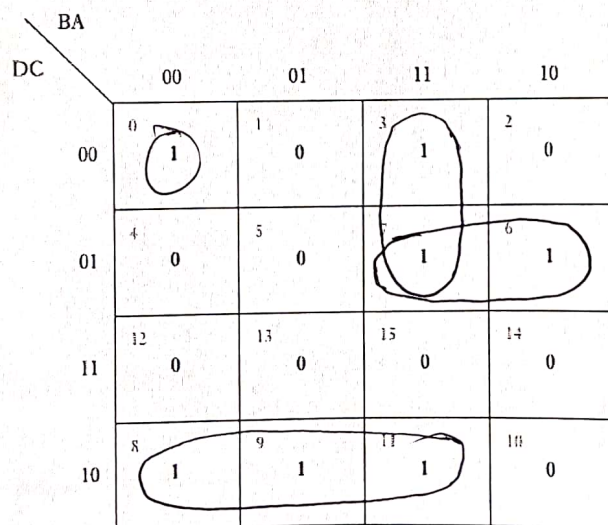

Fig.Q-7.3
- (iii) Obtain the simplified logic expression for the Karnaugh map shown in Fig Q-7.3. [ 6 marks ]